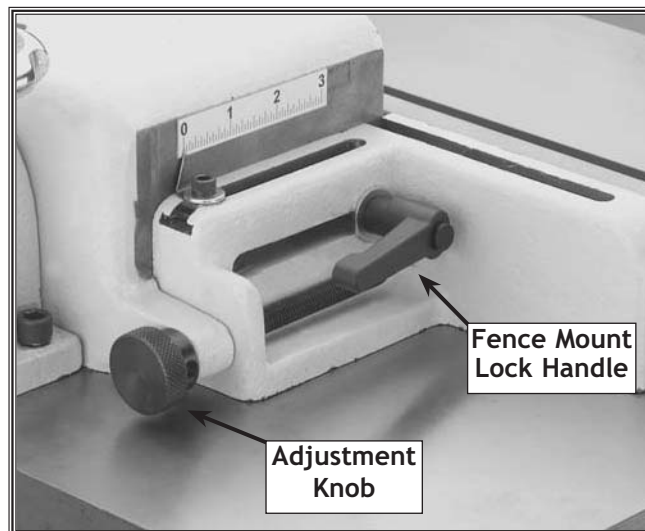

Figure 22. Fence mount lock handle.
1. Loosen the fence mount lock handle located on the side of the fence mount shown in **Figure 22**.
2. Adjust the position of the fence by turning the adjustment knob located on the back of the fence mount shown in **Figure 22**.